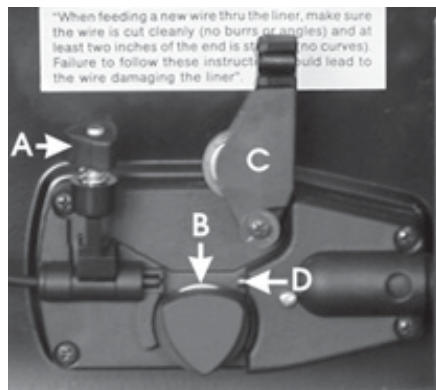

Fig.4
Re: Fig.4
4. Reposition the pressure roller bracket (C, FIG.4) and plastic knob (A, Fig.4) and tighten slightly.